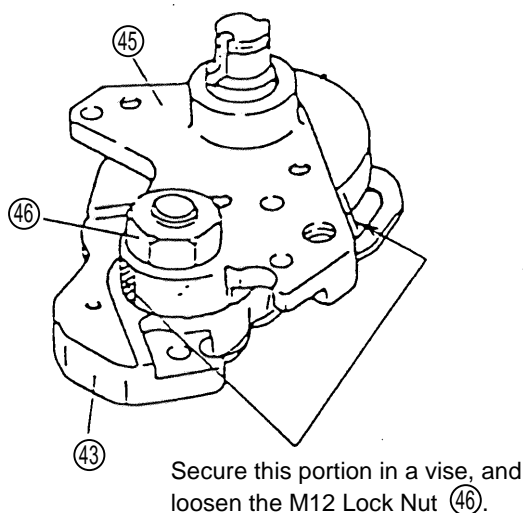
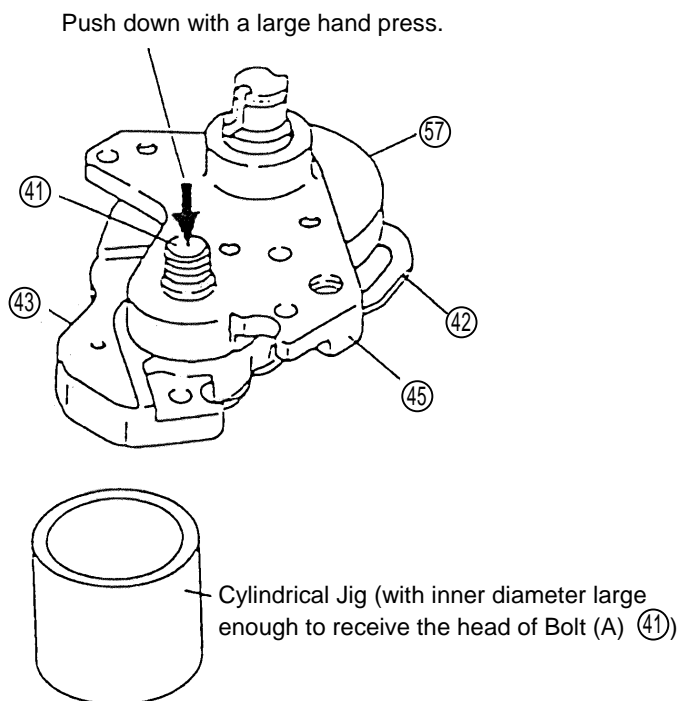

Fig. 7
Fig. 8
(i) Remove Bolt (A) (41). (See Fig. 7 and Fig. 8)
Bolt (A) (41) - connecting Bracket (A) (43), Bracket (B) (45), and the Return Plate (42) - is press fitted into Bracket (B) (45) and secured with an M12 Lock Nut (46). To disassemble the unit, secure Bracket (B) (45) in a vise, and loosen and remove the M12 Lock Nut (46) with a wrench (loosening torque is approx. 350 kg-cm). (See Fig. 7) Then, being very careful not to deform the Return Plate (42), place a cylindrical jig with an inner diameter large enough to receive the head of Bolt (A) (41) below the unit, as illustrated in Fig. 8, and press down on the threaded end of Bolt (A) (41) with a hand press to remove it. Bracket (A) (43), Bracket (B) (45), and the Cam Shaft (57) can then be disassembled. (See Fig. 8)